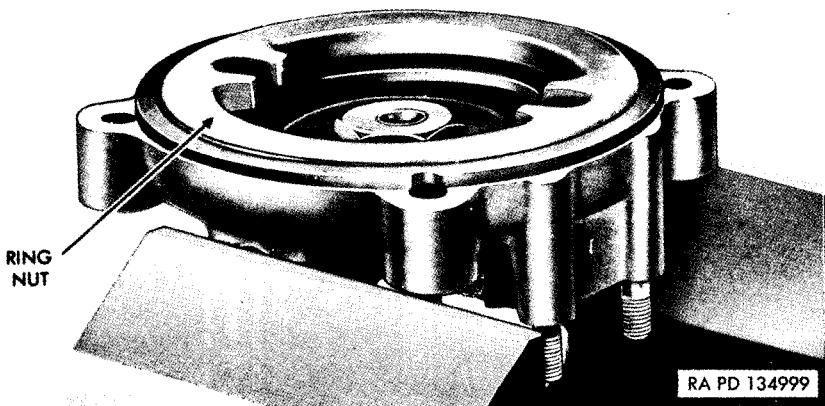
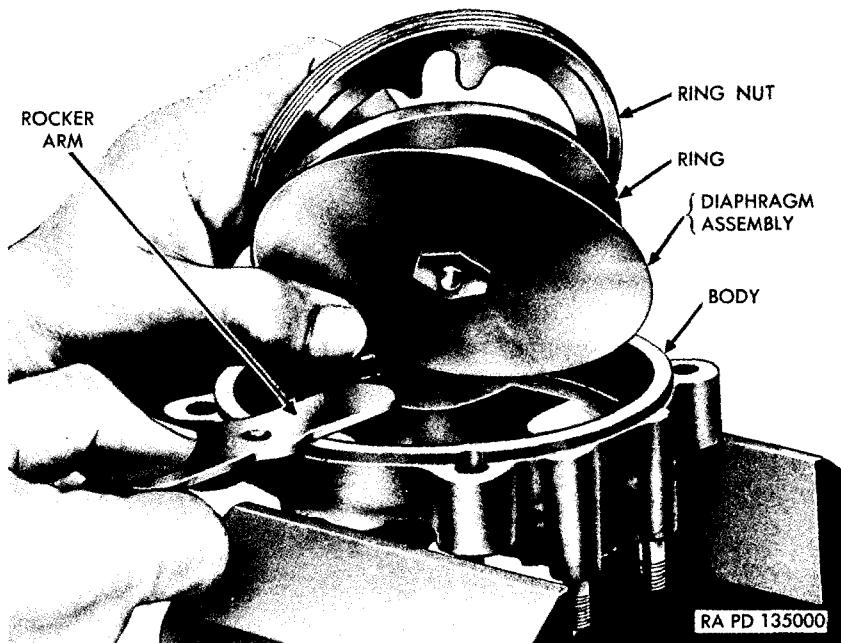

Figure 78. Diaphragm ring nut.
Figure 79. Removing ring nut, ring, diaphragm assembly, and rocker arm.
f. Remove Diaphragm Assembly. The diaphragm ring nut (figs. 78 and 85) may best be removed by using a wrench, such as shown in figure 4. If such a wrench is not available, the ring nut can be removed with a piece of stock and an adjustable wrench. Lift diaphragm ring and diaphragm assembly out of body (fig. 79). Unscrew nut from pivot and lift off washer and diaphragms (fig. 85). Remove rocker arm from body (figs. 79 and 85).
c. Assemble and Install Diaphragm Assembly (fig. 85). Lubricate the two surfaces of the diaphragms which will contact each other with a light coating of OE lubricating oil. Place one diaphragm on the other so that the grain of the first diaphragm makes a 90° angle with the grain of the second diaphragm. Position pivot, diaphragm washer, and pivot nut; tighten pivot nut securely, being careful not to distort the diaphragms. After tightening pivot nut, prick-punch the threads of the pivot and pivot nut to lock the nut in place. Place rocker arm and diaphragm assembly in position in body, and place diaphragm ring in body on top of diaphragm assembly (fig. 79). Place a thin coating of automotive and artillery grease (GAA) on bottom of the ring nut